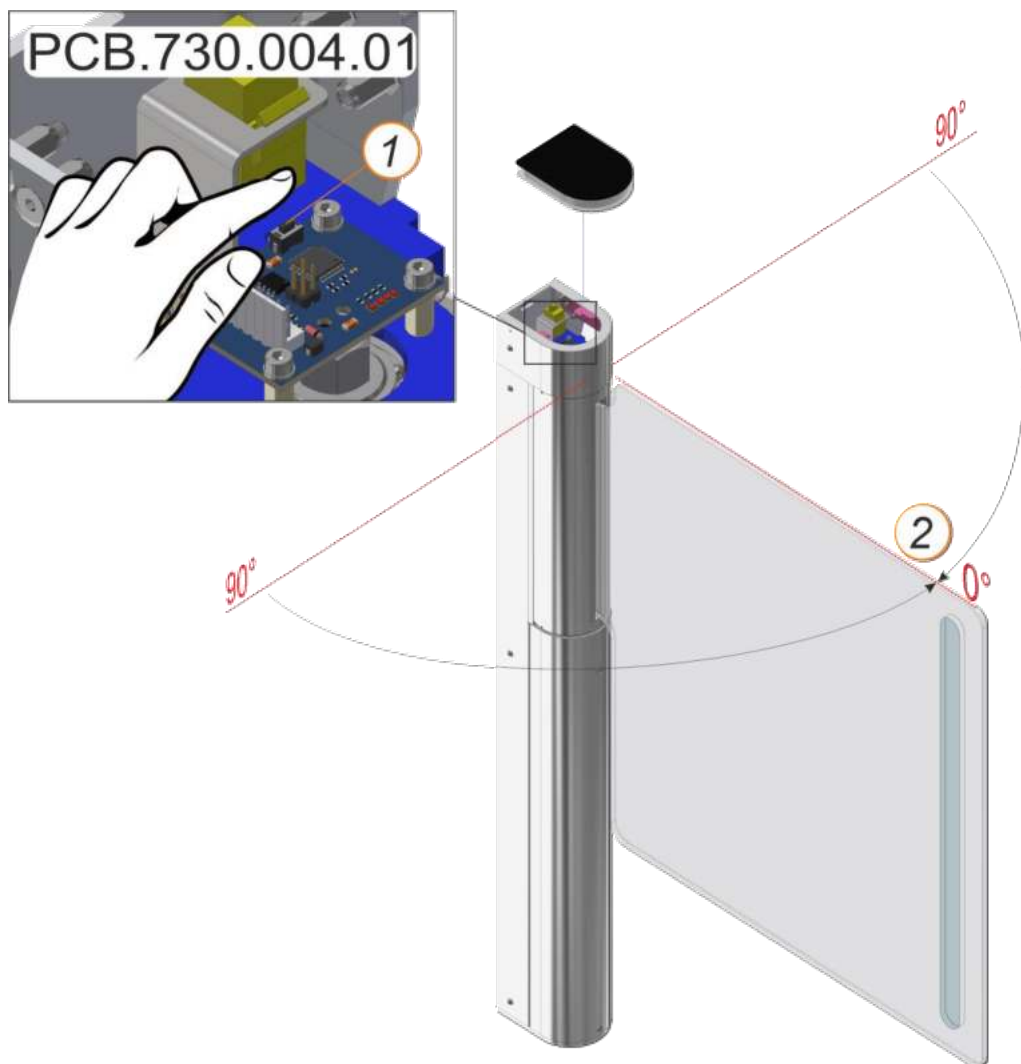

Fig.23 – Setting the zero position of the leaf using the "zero" button
**Option I (with PCB 730.004.01- fig.23)**
- Press and hold the **ZERO (1)** button on the PCB.730.002.01 controller of the leaf magnetic sensor. The turnstile will go into «OFF» mode and a message (2) «gate sensor zero-button is pressed» will appear on the display of the AUIA.401.00.00-01 controller;
- While holding the **ZERO (1)** button manually set the zero point of the leaf turnstile (**CLOSE position (2)**)
- After releasing the **ZERO (1)** button the turnstile will save the user-set point as zero (**CLOSE position (2)**).